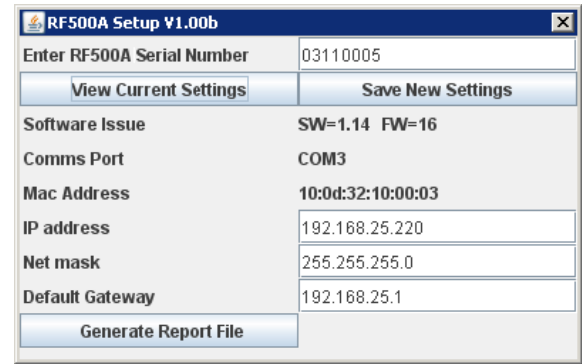

Figure 3 - RF500A-CONFIG Screenshot
3. Start the RF500A-CONFIG Utility using the Windows Start Menu – The screen as shown in “Figure 3 - RF500A-CONFIG Screenshot” opposite, will be displayed: